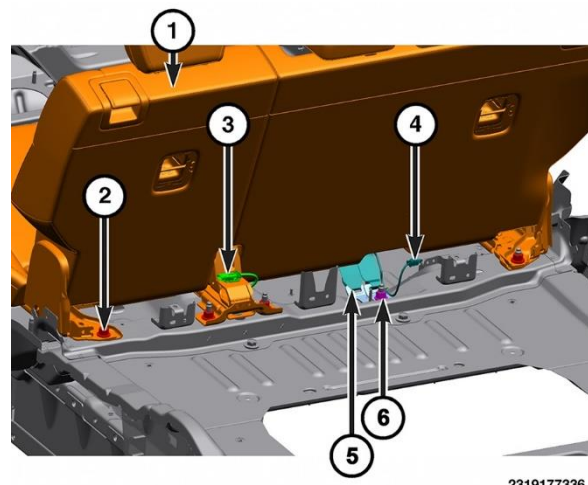

**Figure 31 – Rear Seat Components**
30. Disconnect the wire harness connectors, if equipped (4) (Figure 31).
31. Remove the nut for the center seat belt anchor (6). Remove the seat belts from the floor stud (Figure 31).
32. Remove the rear seat fasteners (2) at the rear of the seat (Figure 31).
35. Connect the wire harness connectors, if equipped (Figures 31 and 32).